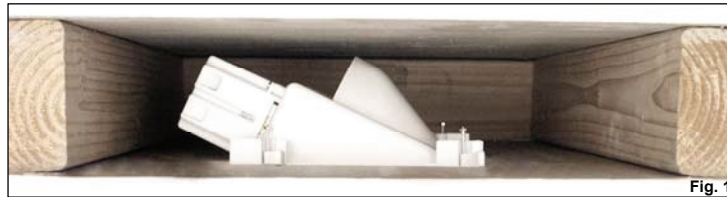
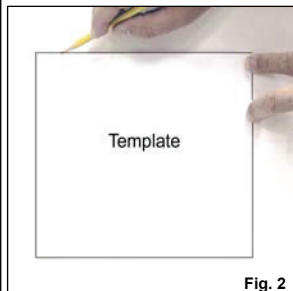

Fig. 1
Fig. 2
- Fig. 1** Top view - shows needed space between the drywall and the studs. Receptacle side of the media plate must be 3" from the stud but no more than 5" (review picture carefully).
- Fig. 2** Using the template supplied (see page 2 of instruction sheet), trace the opening needed. Using a drywall knife, cut a hole in the drywall the size of the template. See Figure 1 before tracing your opening.